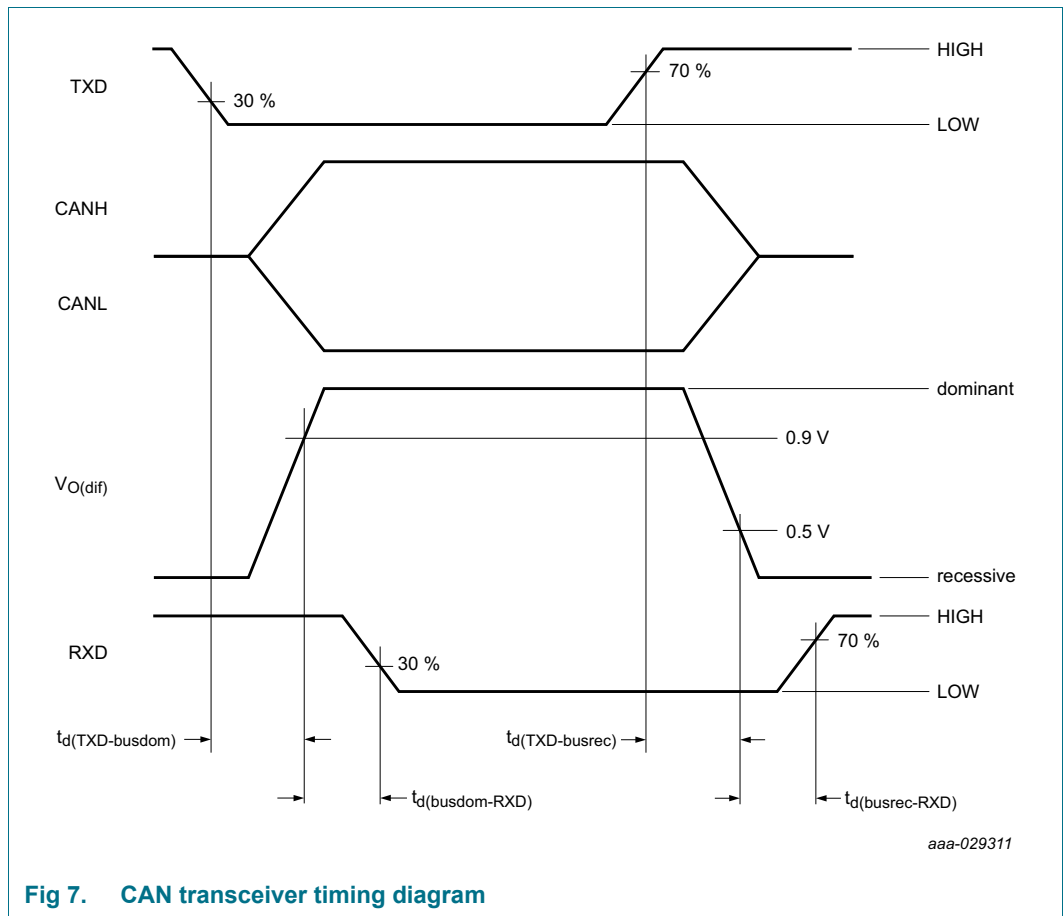
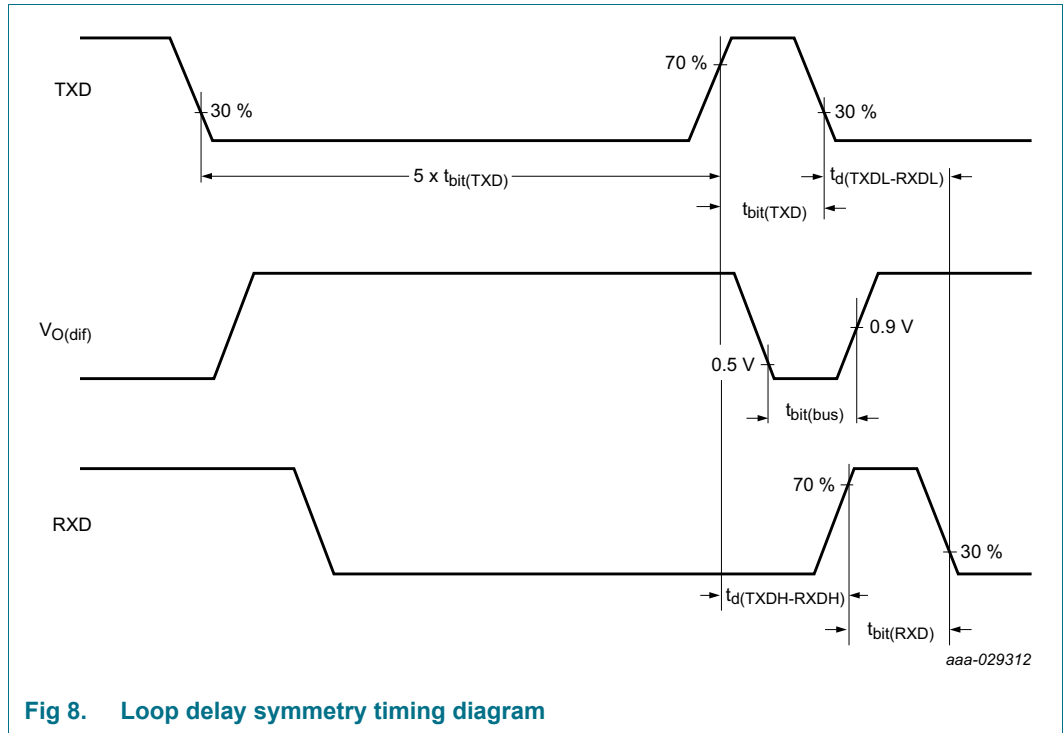
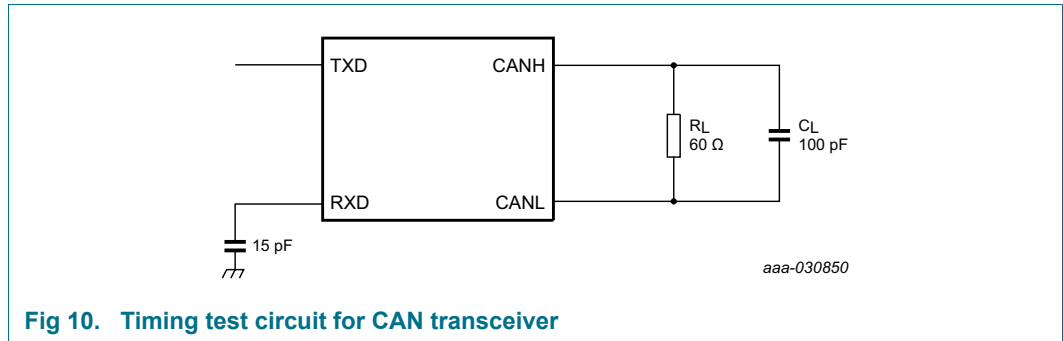

Fig 7. CAN transceiver timing diagram
Fig 8. Loop delay symmetry timing diagram
Fig 10. Timing test circuit for CAN transceiver
- [2] See Figure 7 and Figure 10.
- [3] See Figure 8 and Figure 10.